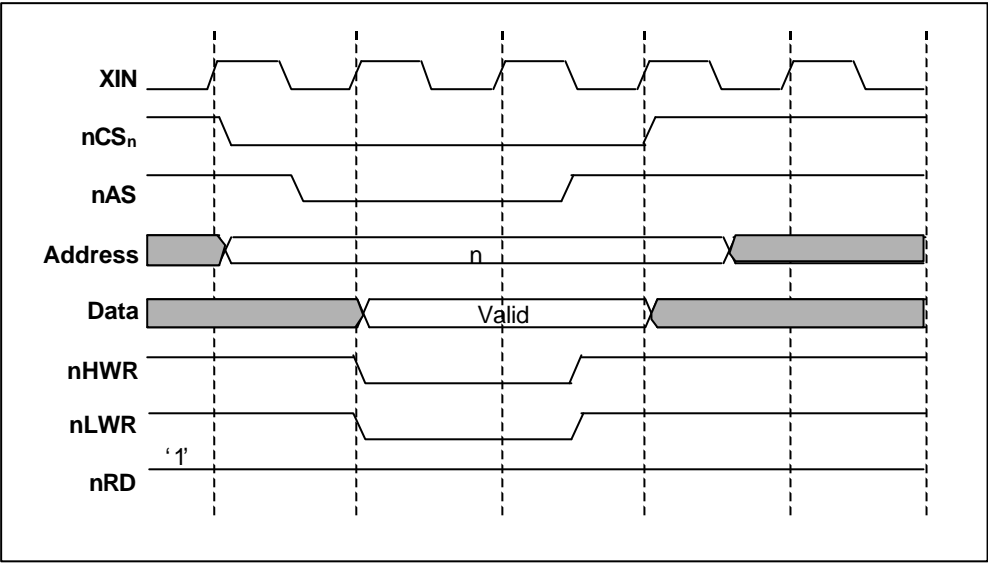
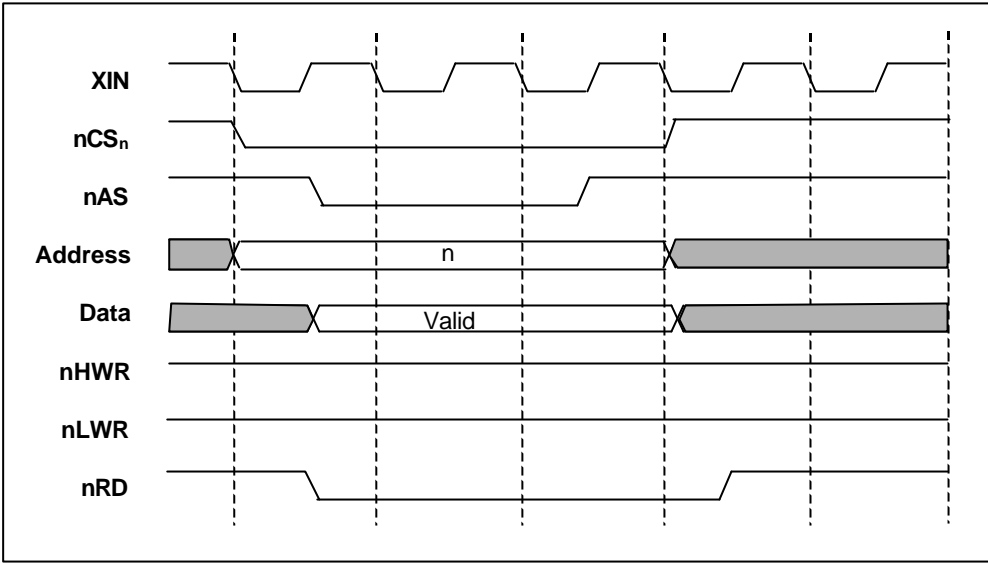

Figure 3.13 Bus Control Signal Write Timing for 16-Bit, 2-Wait (Half-Word Access)
Figure 3.14 Bus Control Signal Read Timing for 16-Bit, 2-Wait (Half-Word Access)
**Figure 3.13** shows the write timing of bus control signals for a 16-Bit 2-wait-access area (In case of half-word access). **Figure 3.14** shows the read timing of bus control signals for a 16-Bit 2-wait-access area (In case of half-word access).